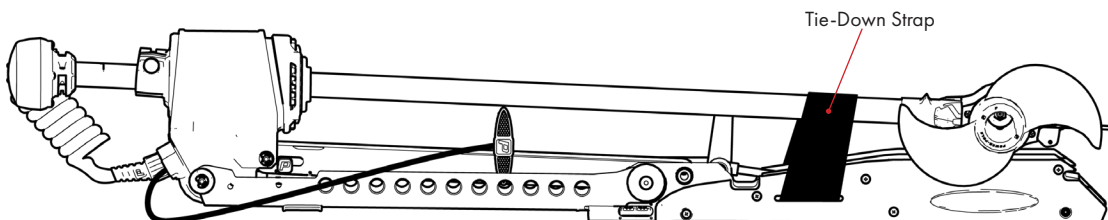

Figure 3
STEP 2 Attach the **Tie-Down Strap**. **FIG 3**